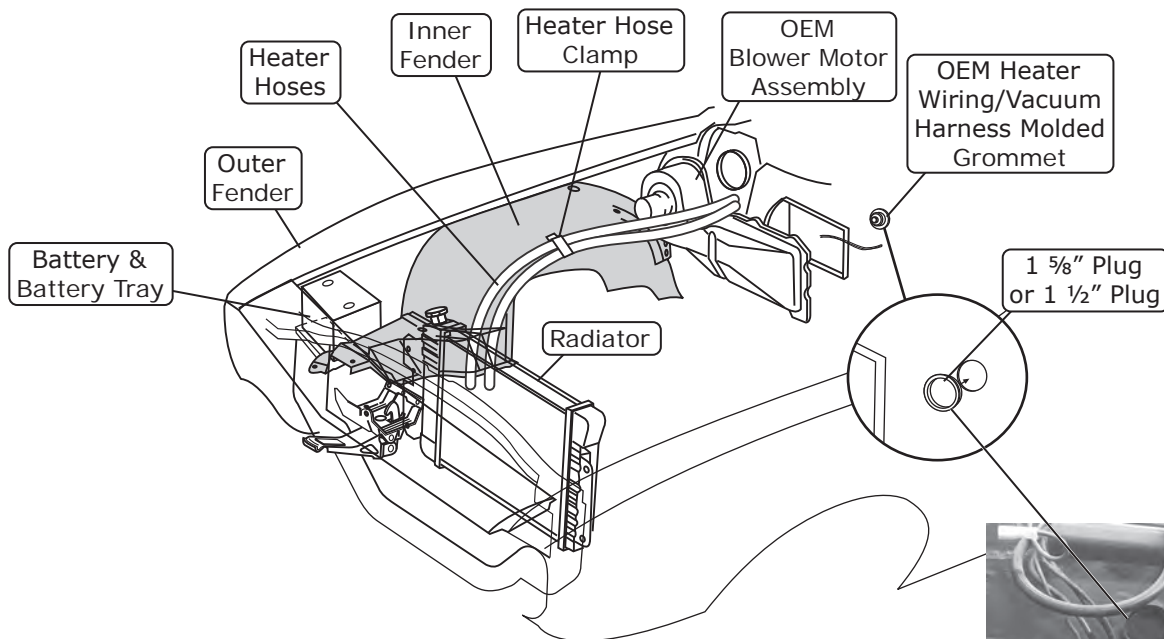

Figure 1
2. Remove the battery and battery tray (retain) (See Figure 1, below).
4. Remove the OEM heater hoses (discard) (See Figure 1, below).
5. Remove the OEM blower motor assembly (See Figure 1, below). **NOTE:** To remove the blower assembly (under hood) and the air distribution system (under dash), the factory manual recommends the following: Remove the right lower rocker molding. Remove the fender attaching bolts. Remove the skirt-to-fender and skirt-to-reinforcement screws. Pull out on the lower portion of the fender, moving the skirt away from the fender flange and firewall. Block the skirt with a 2" x 4" block of wood. To avoid damage to the paint and sheet metal, and for ease of removal and replacement of components, Vintage Air recommends that the right fender be removed, and the inner panel lowered. Removing the right front tire will provide easier access to the inner fender bolts.
6. Remove the OEM heater wiring/vacuum harness molded grommet (discard) (See Figure 1, below).